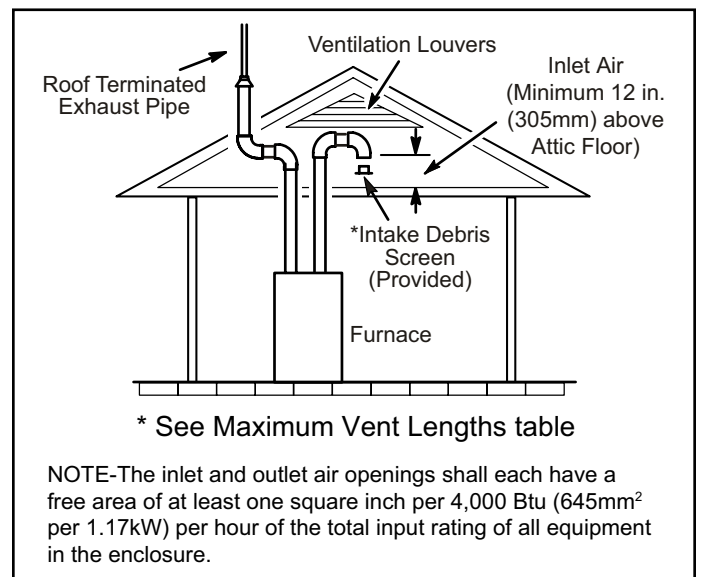
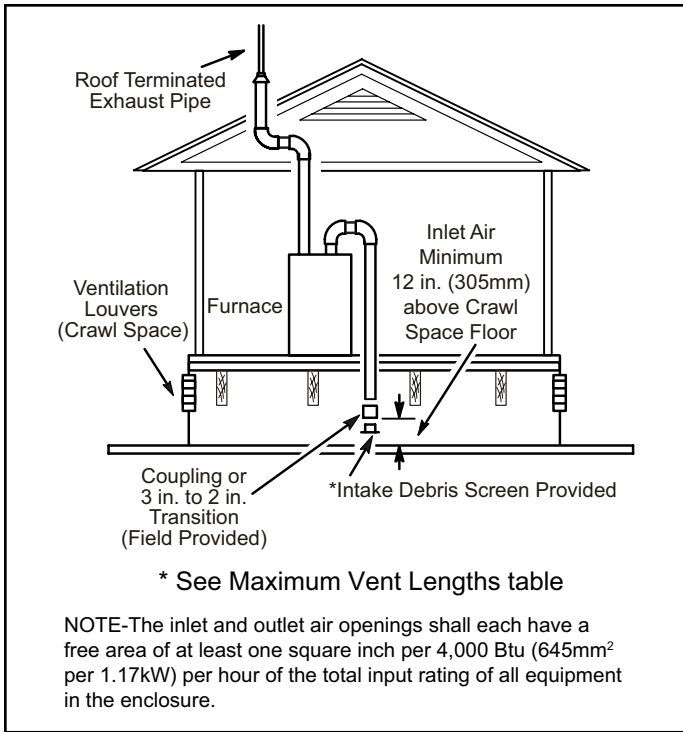

Figure 25. Equipment in Confined Space (Inlet Air from Ventilating Attic and Outlet Air to Outside)
Figure 26. Equipment in Confined Space (Inlet Air from Ventilated Crawl Space and Outlet Air to Outside)
2. If intake air is drawn from a ventilated attic (Figure 25) or ventilated crawlspace (Figure 26) the exhaust vent length must not exceed those listed in Table 12. If 3" diameter pipe is used, reduce to 2" diameter pipe at the termination point to accommodate the debris screen.